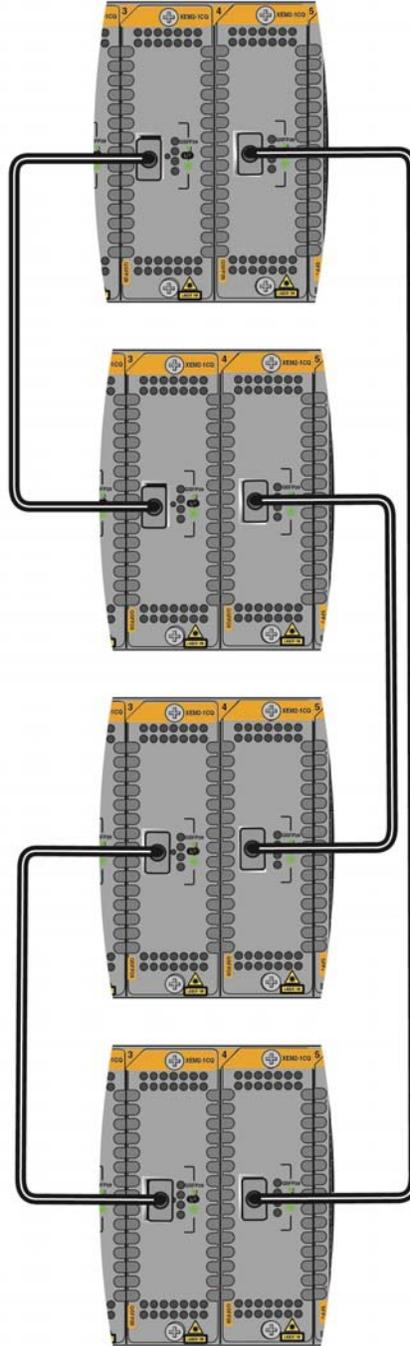

Figure 26. Example of a Stack Trunk with XEM2-1CQ Line Cards
- You can use XEM2-1CQ Line Cards for a stack trunk. But since the card has only one 100Gbps transceiver port, each switch has to have two cards for the trunk. Figure 26 is an example of a stack trunk of four switches with the line card.